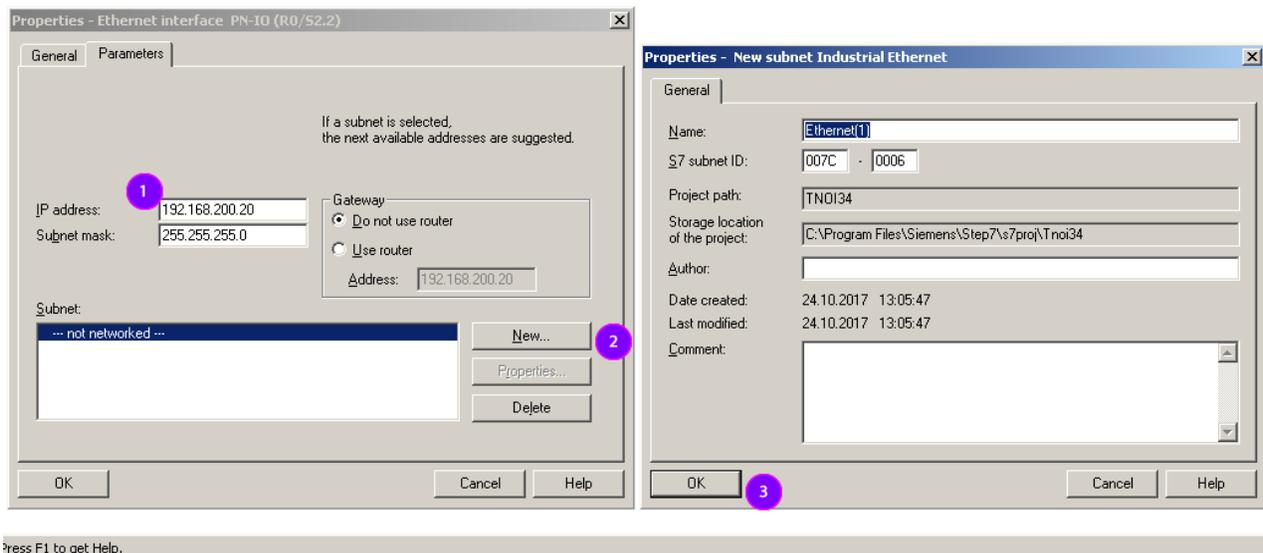
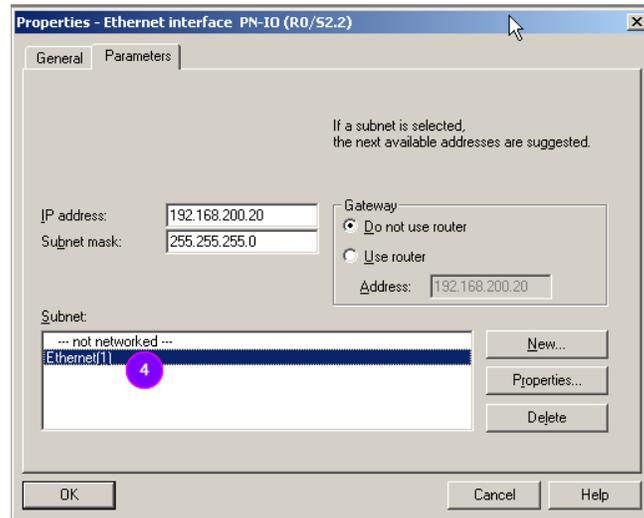

Figure 3.
Figure 4.
4. In the General tab, click on *Properties*; this opens the two popup windows (Figure 3) used to set up the Ethernet network.
Referring to Figure 3:
4. Make sure the Ethernet network just created (Ethernet 1 in Figure 3) is selected. This identifies the Network to which the CPU will be connected and activates the Ethernet port (Figure 4).